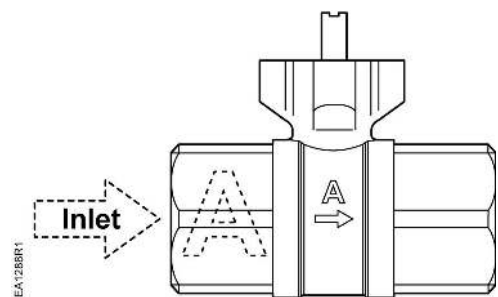

Figure 1. Non-Installed Valve.
- **Non-Installed Valves.** Look into the **A** (inlet) port to see if it is open. See Figure 1.
- **Non-Installed Valves.** Look into the **A** (inlet) port to see if it is closed. See Figure 1.